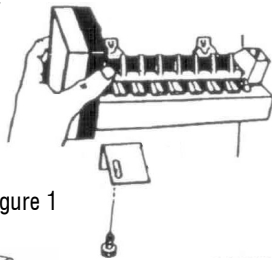

Figure 1
1. Remove defective icemaker from the freezer (see Figure 1). Unplug Harness, check existing harness to this kit to make sure you have the correct wiring harness.